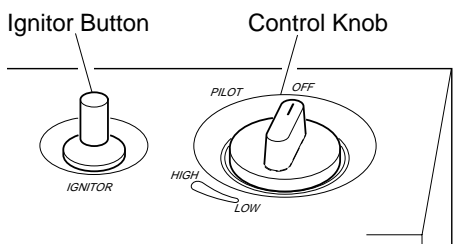

Figure 16 - Control Knob In The OFF Position
4. Wait five (5) minutes to clear out any gas. Then smell for gas, including near the floor. If you smell gas, STOP! Follow "B" in the safety information at the top of page 16. If you don't smell gas, go to the next step.
5. Press in control knob and turn counterclockwise to the PILOT position. Keep control knob pressed in for five (5) seconds (see Figure 16).